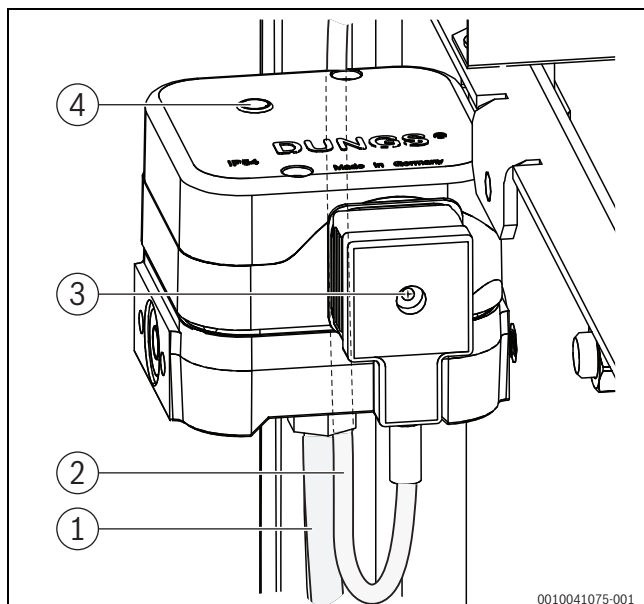

Fig. 83 Detail view of pressure monitor
- Reset by pressing the Reset button (the enclosure does not have to be opened), → Fig. 83.